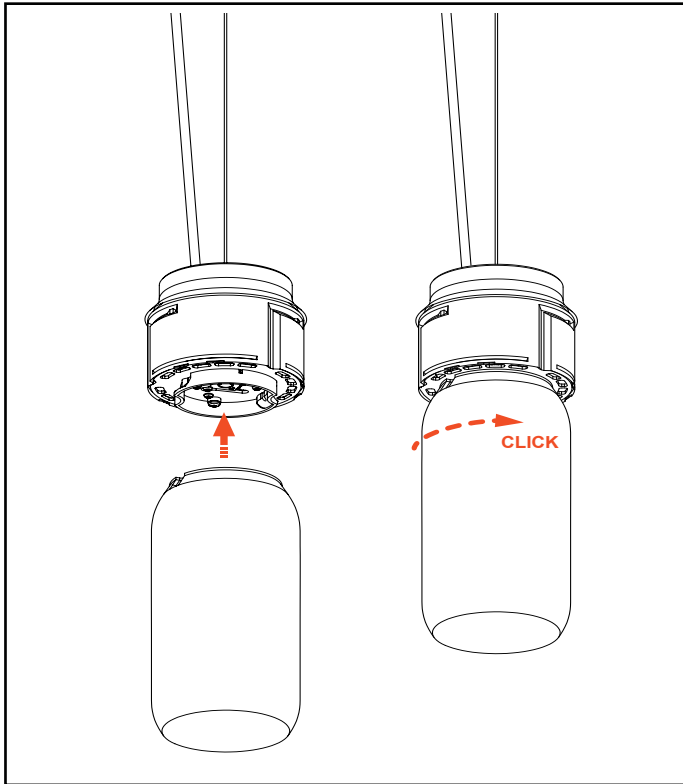

Figure 13
17. Install the diffuser from below by turning clockwise and lock into the light engine. May need to hold the top of the light engine assembly or shroud while installing. (Figure 13)